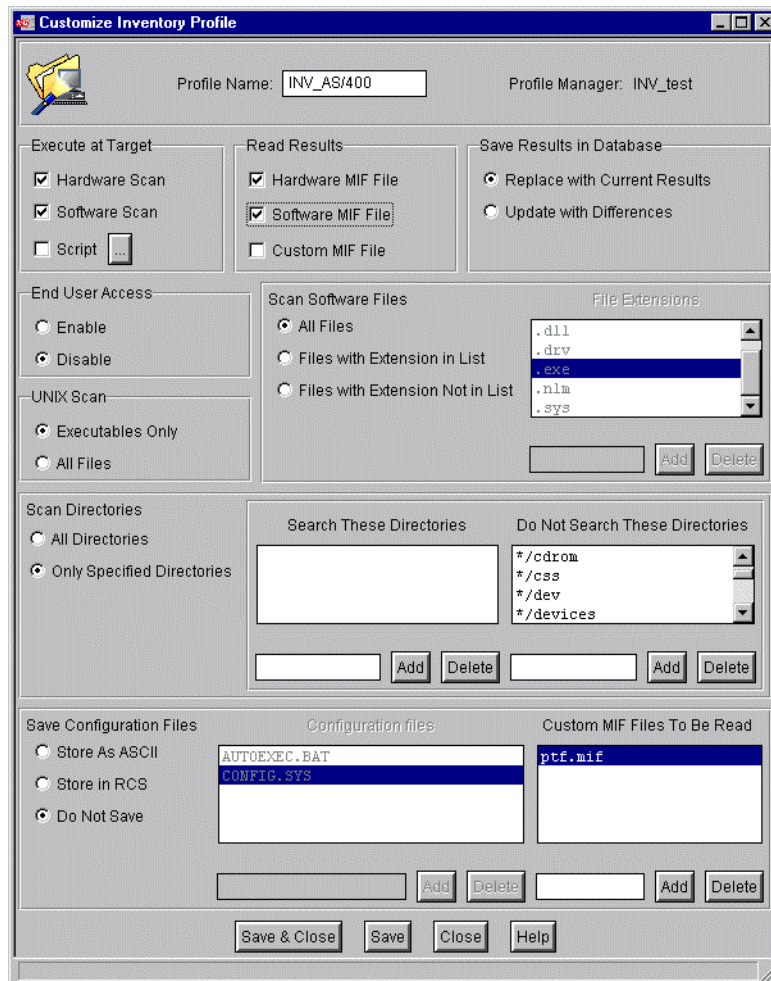

Figure 319. Customizing inventory scans
4. The Customize Inventory Profile screen will be displayed as shown in Figure 319 on page 485.